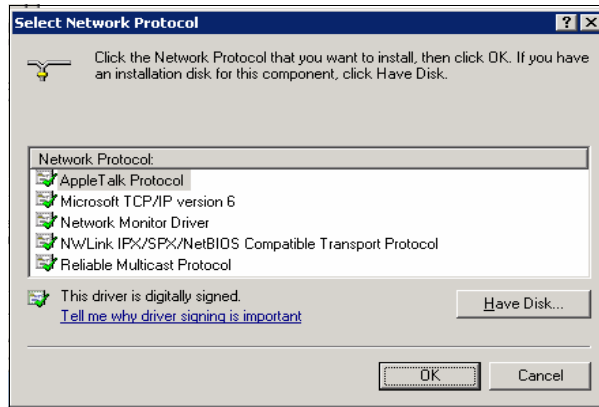

Figure 5-8 Select Network Protocol window
1. Open the Network Connections folder and right click on one of the installed NetXen Dual 10G Ethernet Adapters. Click **Properties** → **Install** → **Protocol** → **Add**. See Figure 5-8.